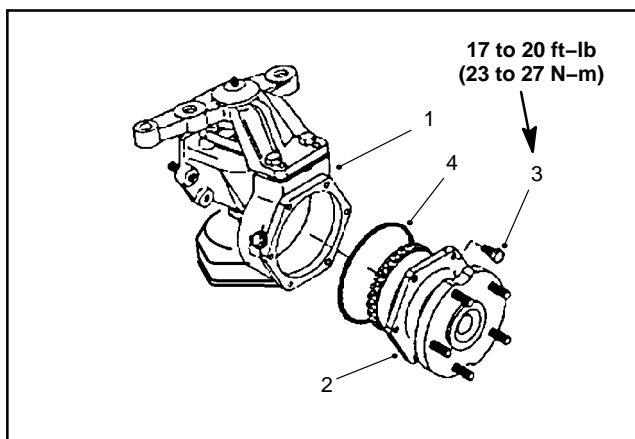

Figure 13
3. Remove the axle cover mounting screws. Remove the axle cover from the axle case as an assembly (Fig. 13).